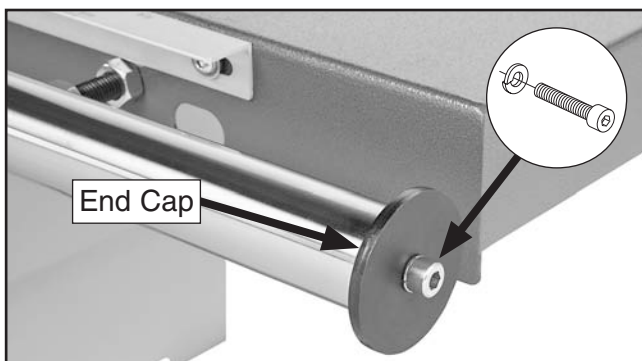

Figure 42. Rip fence rail end cap attached.
48. Attach the flat end cap to the other end of the rail with the M8-1.25 x 16 cap screw and 8mm lock washer, as shown in **Figure 42**.